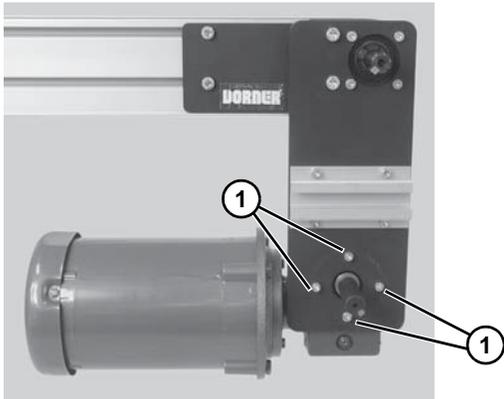

Figure 20
- Remove four (4) gear reducer mounting screws (**Figure 20, item 1**). Remove gearmotor.
- Install gearmotor to mounting bracket and tighten screws (Figure 20, item 1) to 110 in-lb (12 Nm).